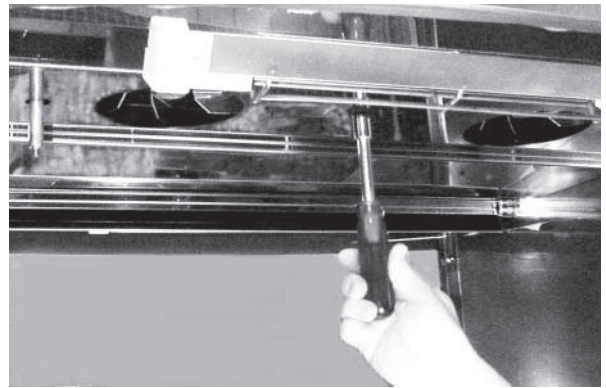

Fig. 47
3. Remove the center nut that secures the element cover using a  $\frac{7}{16}$ " nutdriver (Fig. 47).